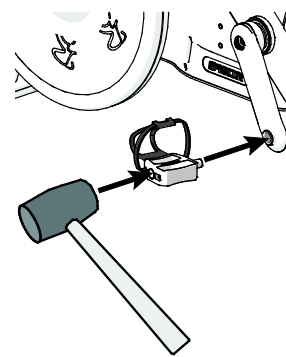

Figure 12
1. Insert a pedal into its corresponding crank arm (Figure 12).
2. Use a rubber mallet to lightly tap the center of the pedal into the crank arm to seat it (Figure 12).